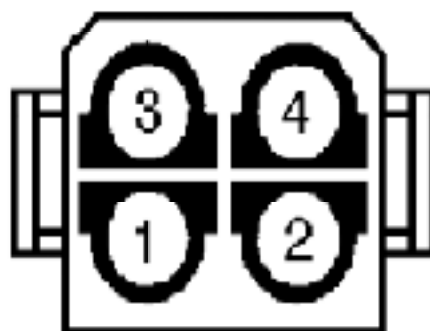

Fig. 8
2) Disconnect transmission 4-pin connector. See Fig. 2 Connect the DVOM leads to 4-pin connector terminals No. 3 and 4. See Fig. 8 Measure resistance between connector terminals (oil temperature sensor terminals) as transmission fluid temperature gradually increases. See OIL TEMPERATURE SENSOR RESISTANCE table. If resistance is not as specified, replace oil temperature sensor.
2) Measure resistance between transmission 4-pin connector terminals No. 1 and 2. See Fig. 8 Resistance should be 400-800 ohms. If resistance is as specified, sensor is okay. If resistance is not as specified, replace sensor.